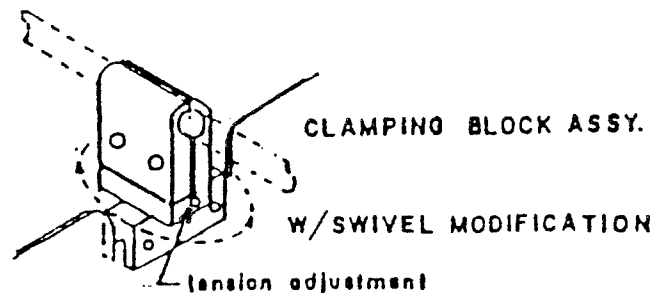

Figure 4
- * Your visors incorporate a swivel modification that allows the visor to rotate in the vertical axis. Swivel tension can be increased or decreased by adjusting the set screw on the side of the visor clamping block as shown in Figure 4.